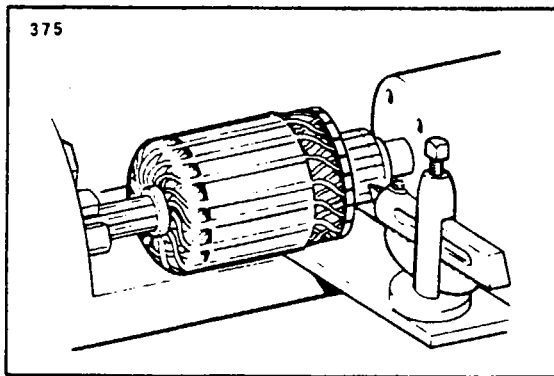

Figure 11-40. Turning Starting Motor Commutator
a. Check the commutator for uneven wear, excessive glazing or evidence of excessive arcing. If only slightly dirty, glazed or discolored, the commutator can be cleaned with 00 or 000 sandpaper. If the commutator is rough or worn, it should be turned in a lathe. Refer to Figure 11-40. The armature shaft should be inspected for rough bearing surfaces and rough or damaged splines.